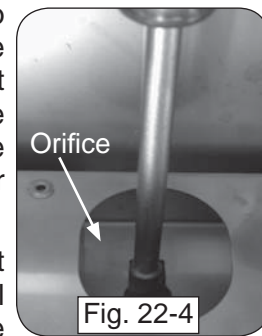

Fig. 22-4
3. Use a  $\frac{3}{8}$ " hex nut driver to remove the exposed orifice (Fig. 22-4) and replace it with the correct orifice for the new gas. (See Table 1 at the beginning of this document for orifice sizes.)